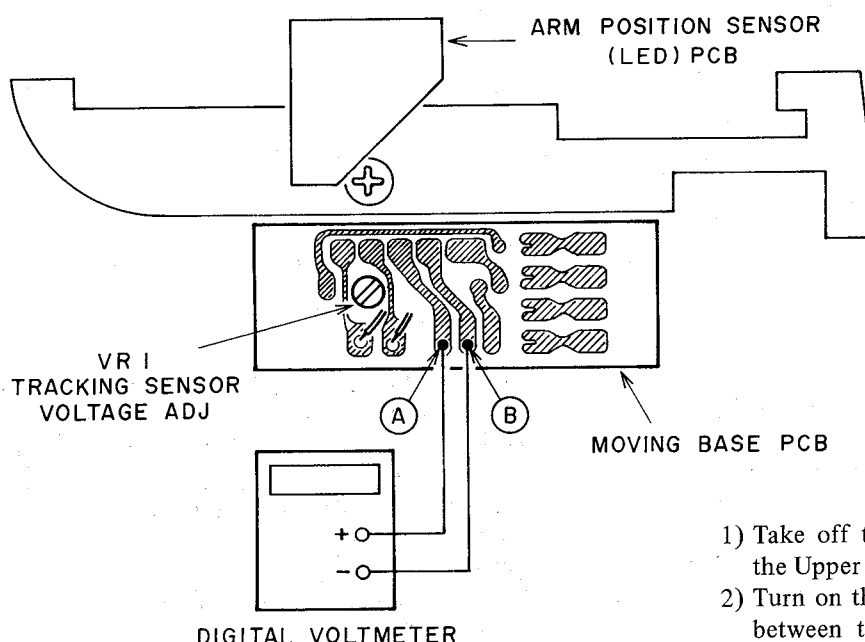

Fig. 6-2 Top View
6-3 TRACKING SENSOR VOLTAGE ADJUSTMENT (Refer to Fig. 6-2)
- 2) Turn on the power and connect a digital voltmeter between the points **A** (Terminal ③) and **B** (Ground) as shown in Fig. 6-2. Then adjust VR1 (20K) so that the voltage is 3.0 ± 0.1 V.